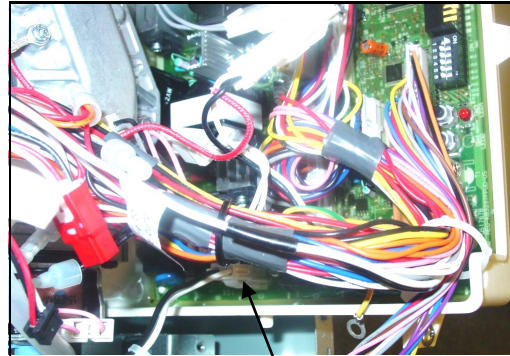

Figure 1
4. Remove the power supply connector on the PC board and attach it to the jumper connector (in line with the fuse). See (A). Attach the other end to the PC board. (Figure 1)